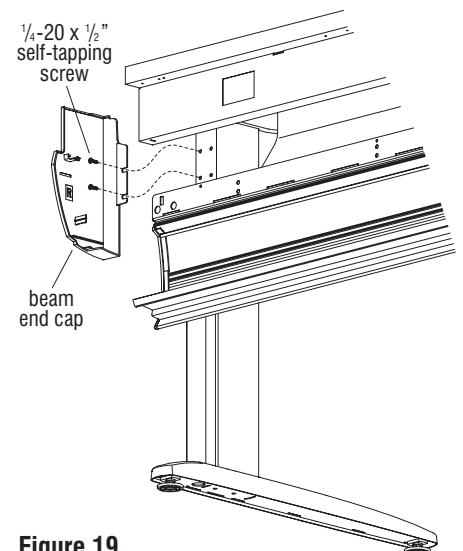

Figure 19
1. At the end of each row, snap the beam end cap into the open end of the rectangular beam and data trough. Secure the end cap to the leg as illustrated with two $\frac{1}{4}$ -20 x $\frac{1}{2}$ " self-tapping screws (Figure 19).